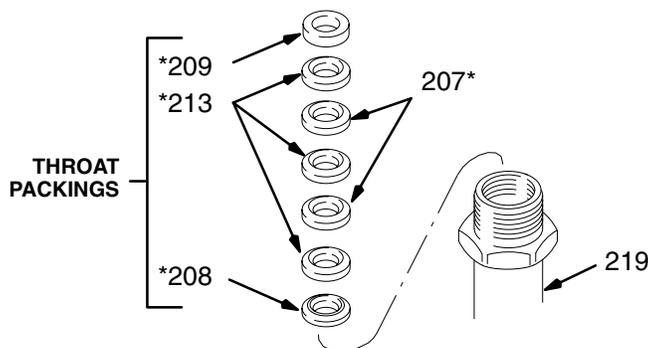

Fig. 24 04231
6. Remove the throat packings and glands. See Fig. 24.